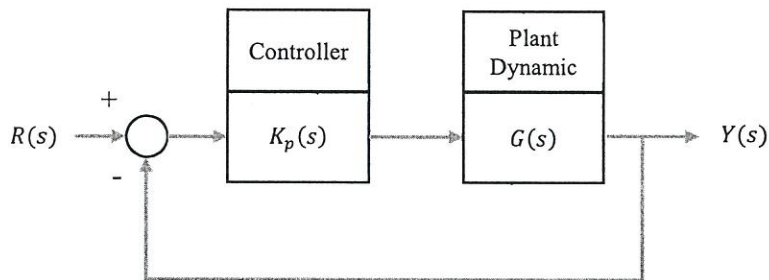

Figure Q5 The uncompensated system.
- Q5** Consider the unity feedback system shown in **Figure Q5** with: